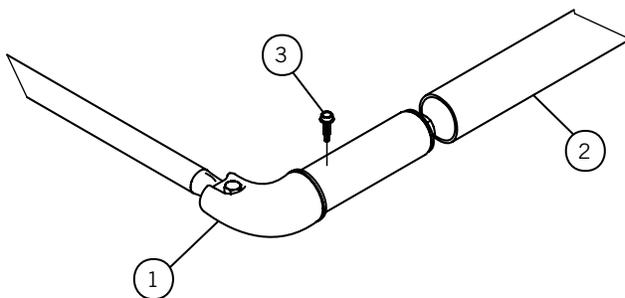

Figure 34-3
- 2) **Figure 34-3.** Slide roll pipe over the rear arm pipe bushing.
- 3) **Figure 34-3.** Use the supplied Tek screw to connect the roll pipe to the rear arm.